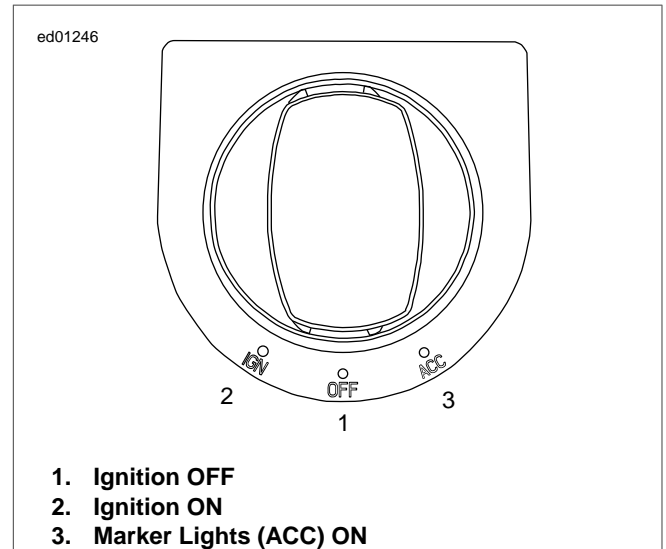

Figure 2-1. Ignition Switch
- See Figure 2-1. "Key ON" means that the Ignition Switch is turned to IGNITION (2) and the Engine Stop Switch is set to RUN (although the engine is **not** running).
- See Figure 2-1. "Key ON" means that the Ignition Switch is turned to IGNITION and the Engine Stop Switch is set to RUN (although the engine is **not** running).